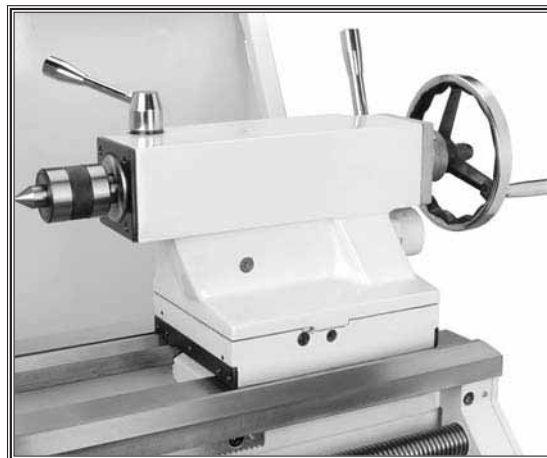

Figure 43. Live center installed.
2. Insert the center into the quill opening. Matching tapers provide the locking action (see **Figure 43**).